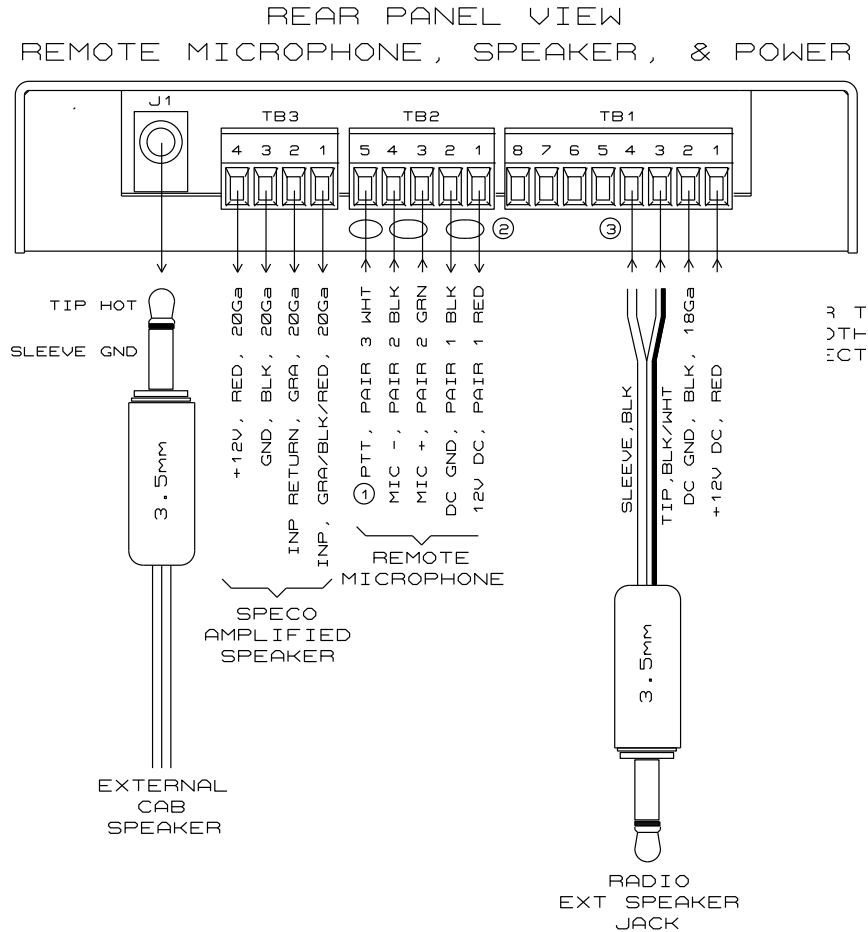

Figure 8: Rear connections for Speaker Switch 17-95160, General
- ① Take extra BLK wire from pair 3 of TB2 (WHT wire of pair is denoted by ① in Figure 8 above)